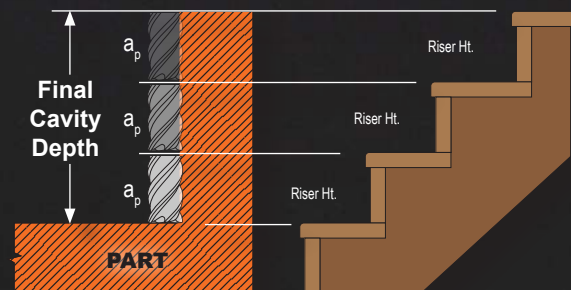

Fig. 3 - An example of reduced neck (RN) step down milling
We may safely utilize a length of cut (LOC) up to four times the diameter (4xD) with HEM roughing. Furthermore, there are no issues whatsoever when we go between roughing and finishing with the same tool. Nevertheless, in the absence of a dynamically driven tool path (High Efficiency Machining, aka HEM), it is advised to employ a reduced neck tool (RN) in conjunction with the most precise tool holder, as illustrated in figure 3. Cut to an axial depth of 1.5 times the tool diameter (1.5xD) while maintaining a considerable radial depth of cut (a_e). This will guarantee maximum efficiency by controlling the metal removal rate (MRR) and simultaneously maximizing your productivity.